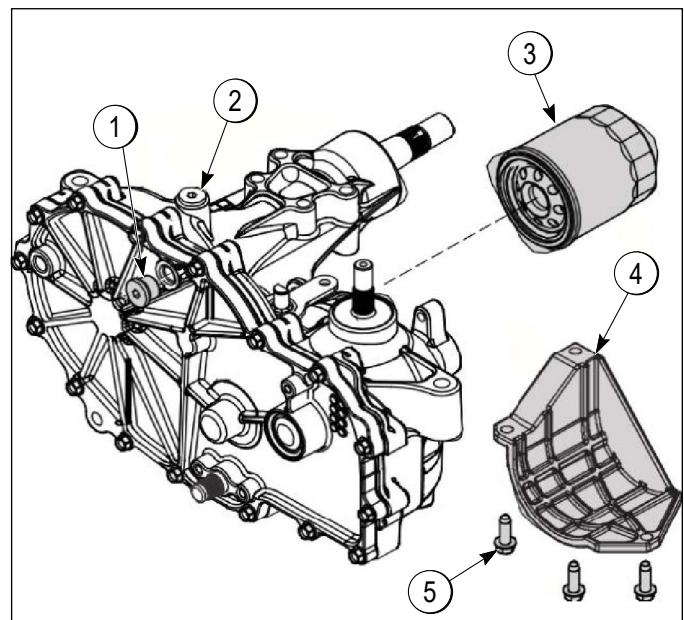
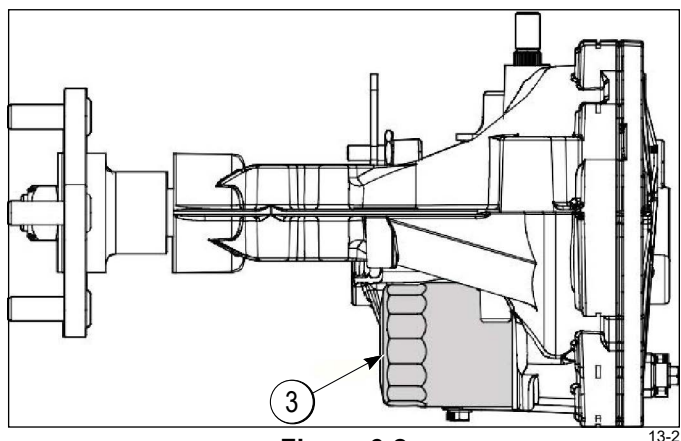

Figure 6-1
Figure 6-2
2. Remove the three 1/4 in filter guard screws (5) and filter guard (4). Clean any loose debris from around the perimeter of the filter. See Figure 6-1 and Figure 6-2.
11. Fill with 20W-50 motor oil until oil just appears at the bottom of each transaxle top port plug (1) (approximately 2 qt per transaxle, 4 qt total). Install the top port plug (1) into each transaxle as the oil level reaches this port.
NOTE: For units that do not have an external expansion tank, replace the fill port plug (2) on the top of the housing (see Figure 6-1), torque to 120 in-lb (20.3 N•m), and proceed to the purge procedure.